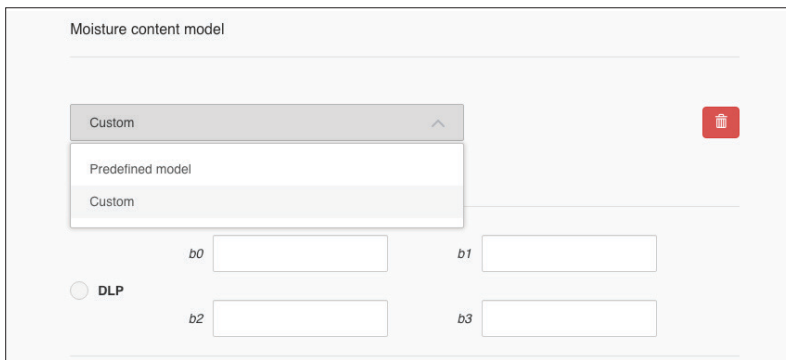

Figure 17 Custom model selection
- a. In the dropdown box below the Moisture Content Model heading, select the Custom model option (Figure 17).